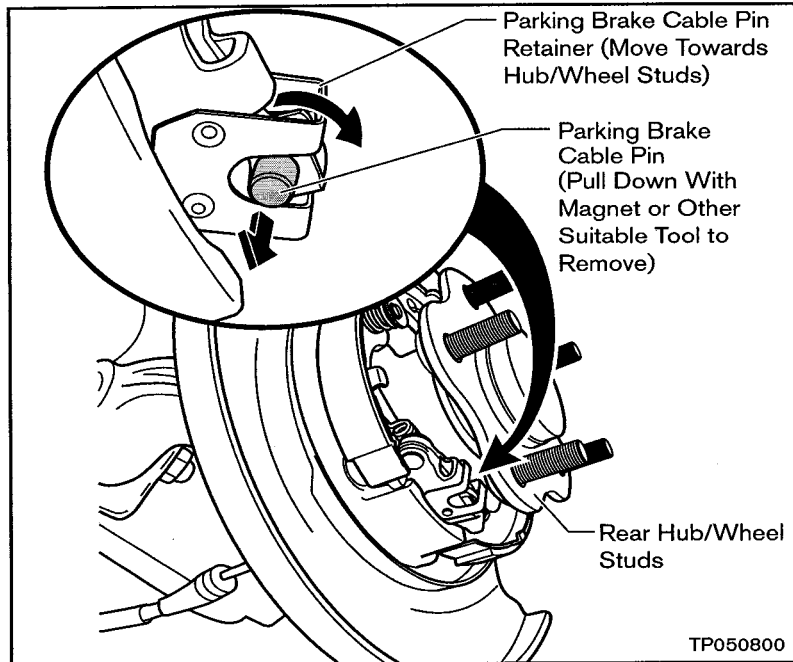

Figure A11
- b. Pull the parking brake cable pin retainer OUT towards the hub/wheel studs (see Figure A11).
- c. Then, use a magnet or other suitable tool to remove the pin from the bottom side of the parking brake cable end (see Figure A11). Be careful not to drop/lose the pin.